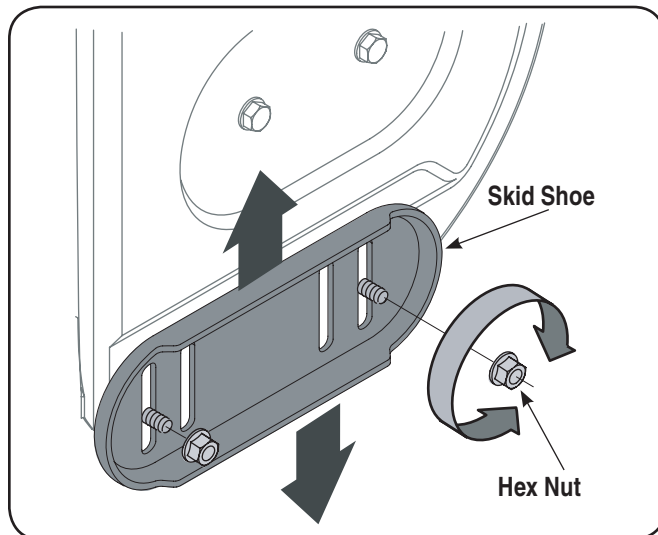

Figure 3-22
1. Loosen the four hex nuts (two on each side) and carriage bolts. Move skid shoes to desired position. See Fig. 3-22.